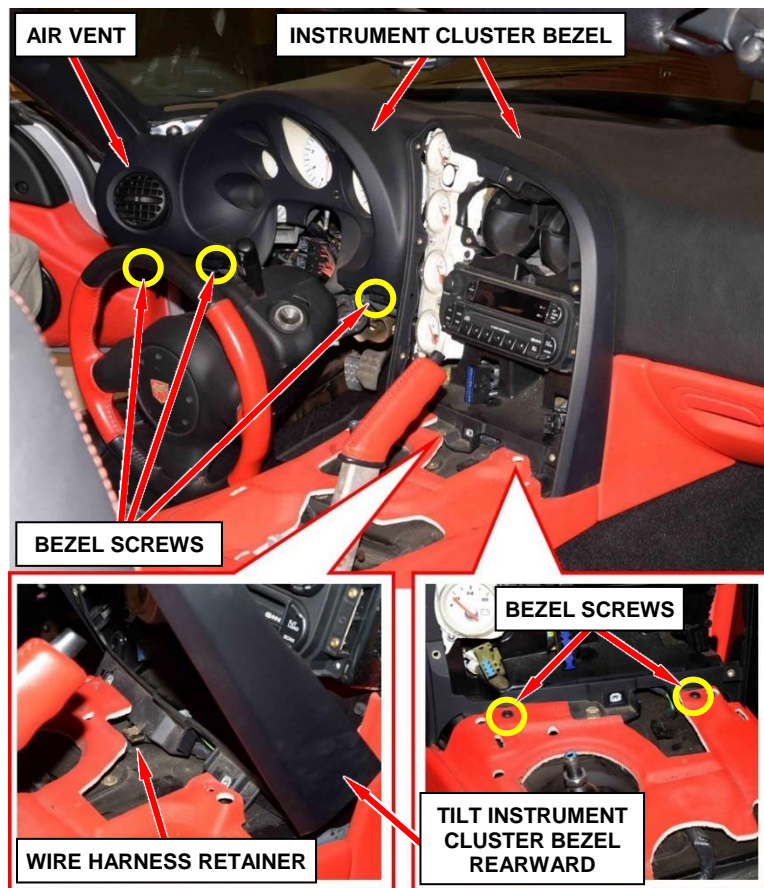

Figure 12 – Instrument Cluster Bezel
27. Remove the three screws (two left side of steering column and one right side of steering column) securing the instrument cluster bezel (Figure 12).
28. Remove the two screws from the center console securing the instrument cluster bezel (Figure 12).
29. Release the instrument cluster bezel retaining clips then tilt the bezel rearward away from the instrument panel while disconnecting the air vent (Figure 12).
30. Release the wire harness retainer from the instrument cluster bezel then remove the bezel from the vehicle (Figure 12).
53. Secure the wire harness retainer to the instrument cluster bezel and align the air duct while positioning the bezel to the instrument panel (Figure 12).
54. Engage the instrument cluster bezel retaining clips securing the bezel to the instrument panel (Figure 12).
55. Install the two screws securing the instrument cluster bezel to the center console (Figure 12).
56. Install the three screws (two left side of steering column and one right side of steering column) securing the instrument cluster bezel (Figure 12).